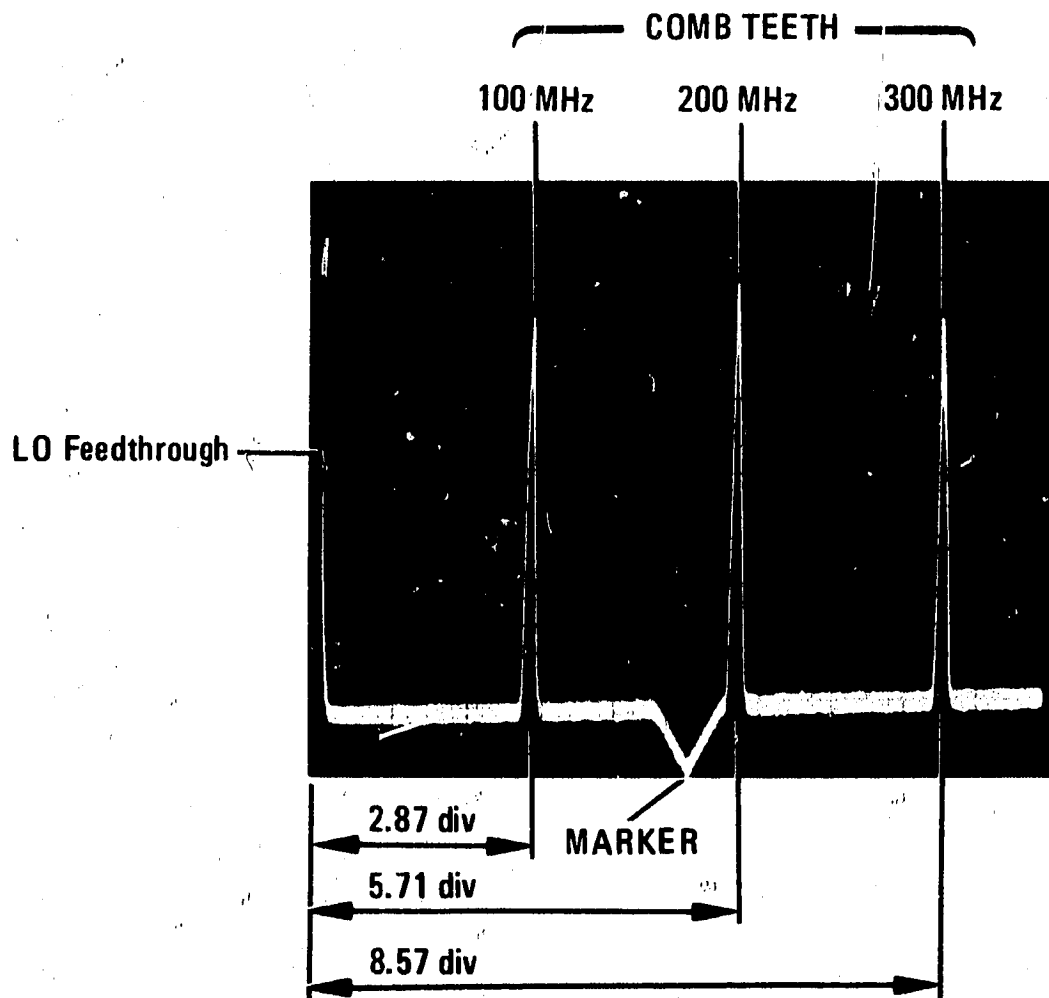

Figure 4-2. Full Span Display
3. The display should appear as shown in Figure 4-2, indicating correct full span operation. Note presence of tuning marker at center screen.